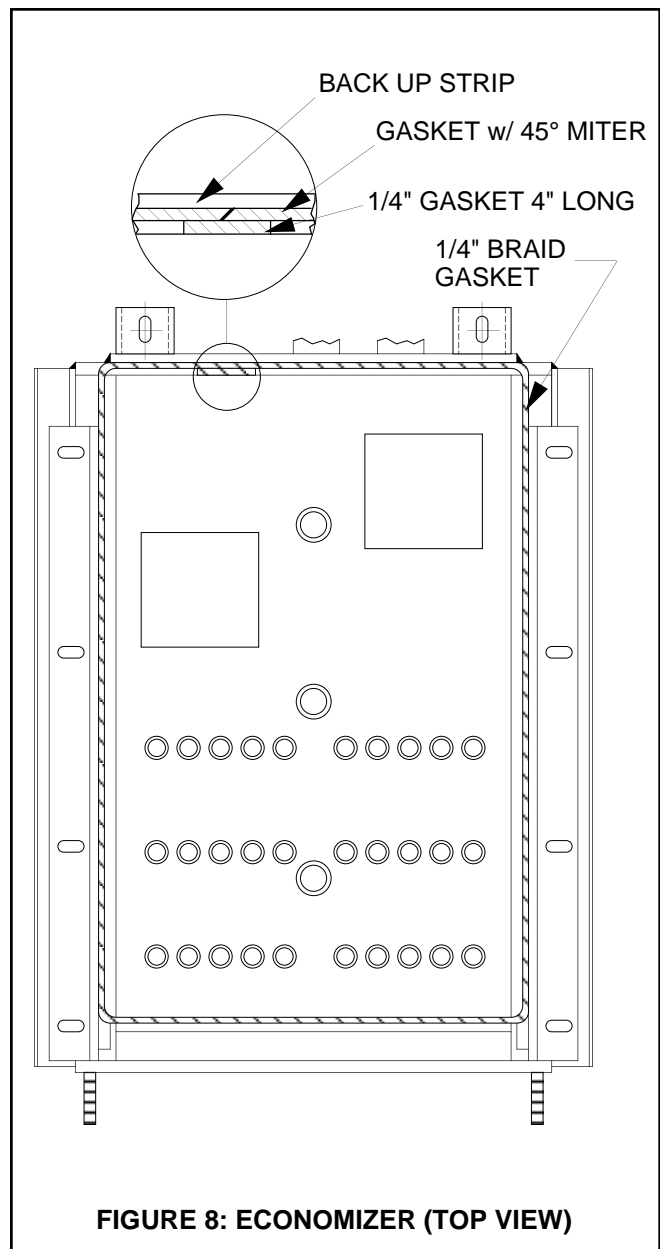

FIGURE 8: ECONOMIZER (TOP VIEW)
- (1) Starting on the front (thickest plate or thickest section of front plate) lay the gasket on the edge against the retaining plate. Lay the gasket on all four top surfaces of the economizer forming the corners so that the gasket is always on the plate. When the gasket over-laps itself miter cut at 45° to form an overlapping butt joint (see fig. 8).
- (2) Use high temperature silicone RTV to hold the butt together and at occasional spots between the top edge of the economizer and the gasket to hold the gasket on the plate edge.
(3) Lay an approximately 4" piece of the 1/4" square braided gasket next to and overlapping the butt joint. Use high temperature silicone RTV to hold in place.